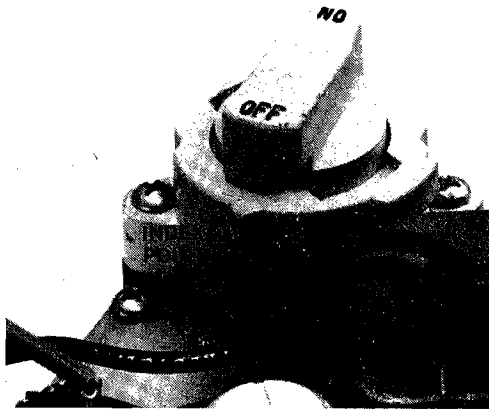

FIG. 7
3. Wait five (5) minutes.
5. Turn knob on automatic gas valve to "ON". See Fig. 7.
2. Turn knob on automatic gas valve to OFF. Figure 7.